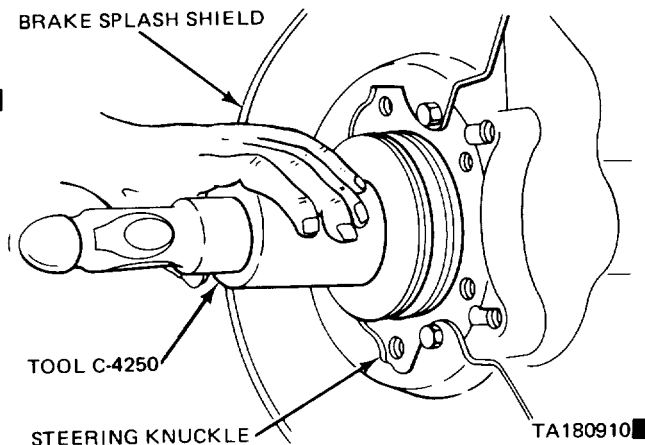

Figure 6-8. installing Inner Oil Seal in Steering Knuckle.
(8) Slide the axle shaft into position. Using tool C4250, install a new seal in the steering knuckle (figure 6-8). Install the brake splash shield and tighten the mounting screws. Position the disc brake adapter on the steering knuckle. Install and tighten the mounting bolts to 85 ft-lbs.